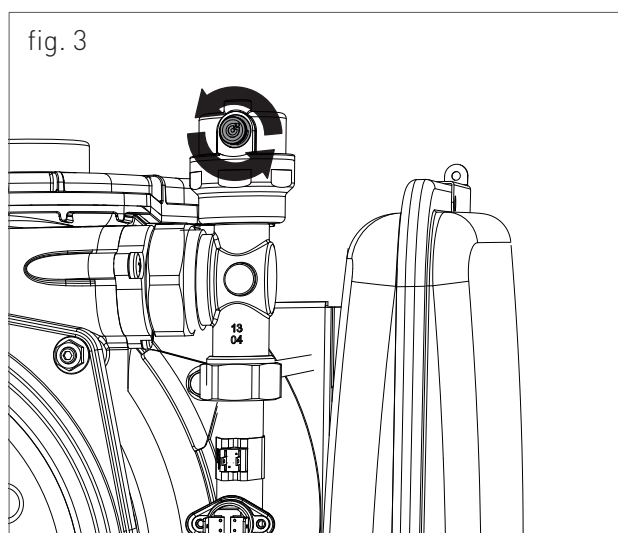

fig. 3
For machine positioning, proceed as follows (see fig. 3):
2. slightly loosen the cap of the jolly valve placed on the top of the condensing block (fig. 3) to release the air form the top of the system;